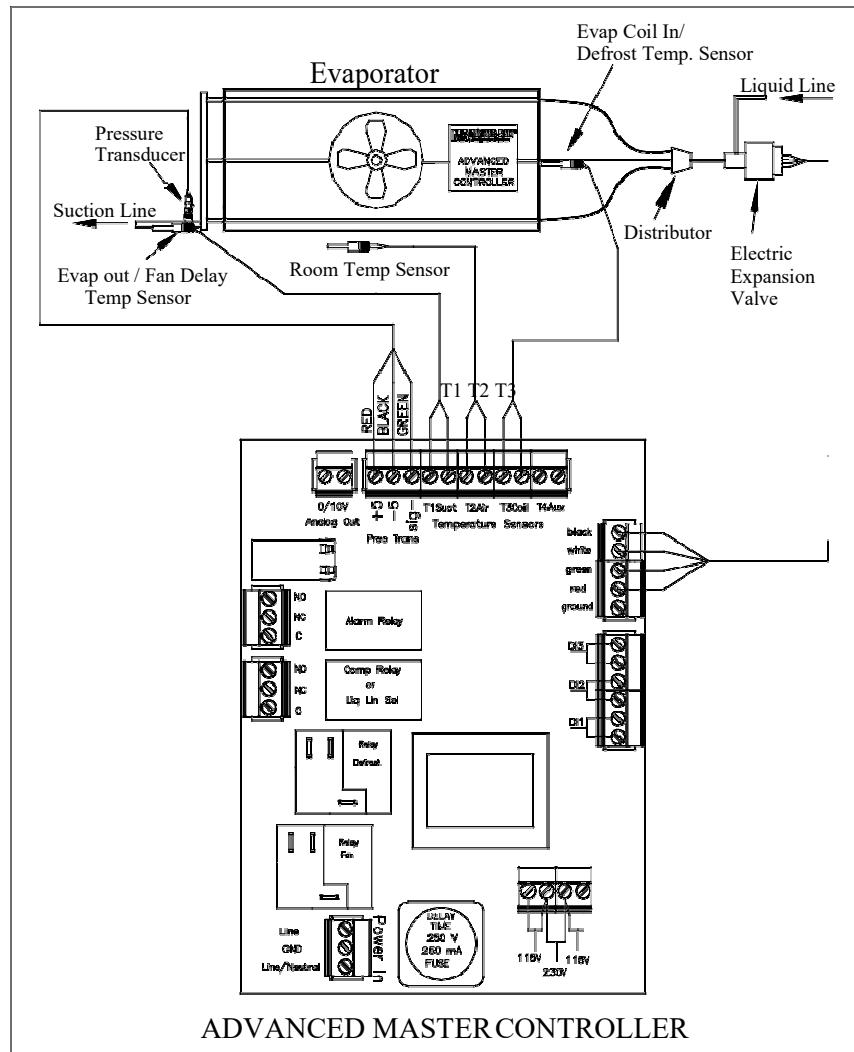

Figure 2.
- **Defrost Termination Temperature Sensor TS3** is mounted downstream of the distributor tube after the valve and close enough to the evaporator coil to measure defrost termination temperature during defrost cycle. Figure 2 on the previous page shows the sensor locations of the evaporator and the controller.